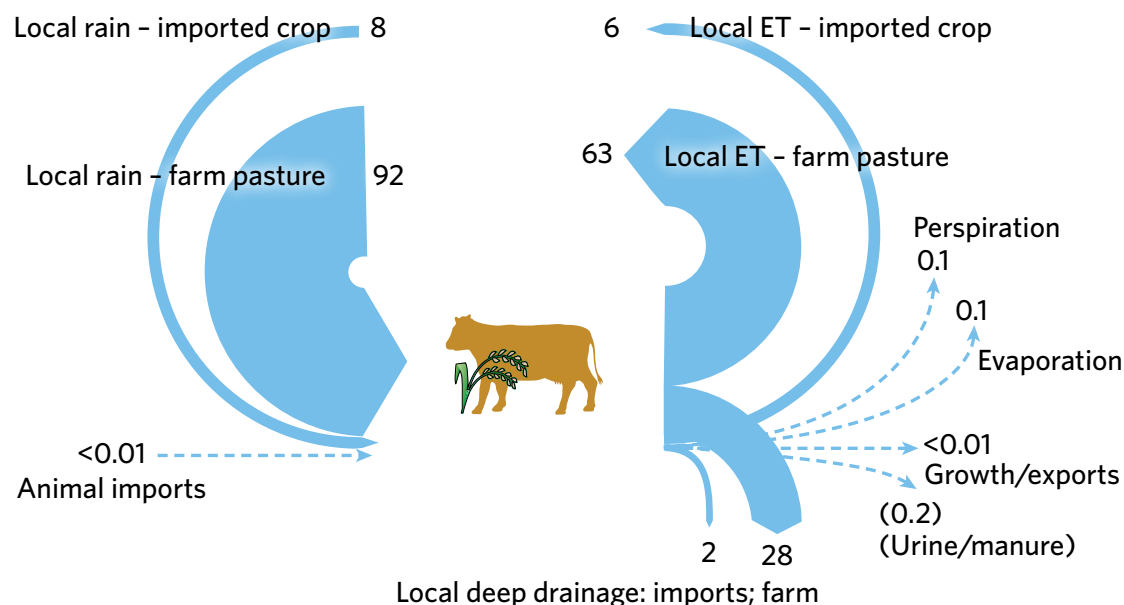

Figure 1: Annual water flows for the Victorian property in 2004 (%)
Figure 1 shows the water flows for the Victorian farm in 2004 as a Sankey diagram. Note that most of the water moving in and out of the property is by local rain, shown on the left, and evapotranspiration (ET) shown on the right.
8. According to Figure 1, how much water in total is lost from the property by evapotranspiration (ET)?